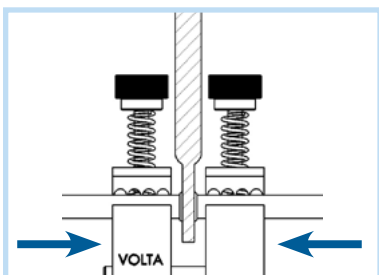

Fig. 7
6. Place the welder's tip between the belt edges and close the pliers, pressing lightly, until belt edges melt into a  $0.5 \div 1.0$  mm crown (Fig. 7).